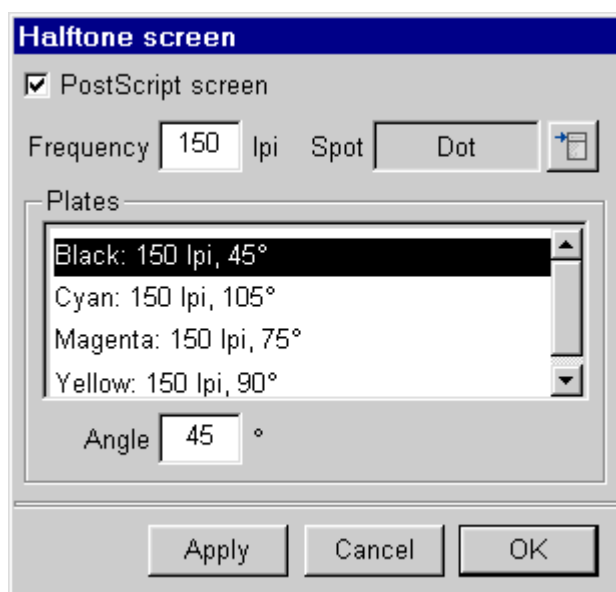

Fig. 13.11 - The **Screen** dialogue box.
**PostScript screen** causes half-tone screen information to be written into the PostScript file, and should usually be selected (*fig. 13.11*).